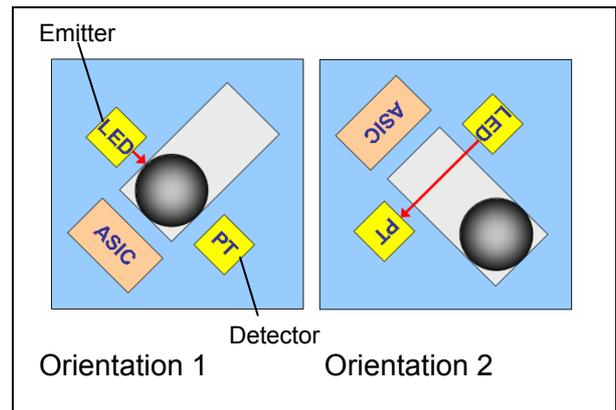

Figure 2: Function of the SFH 7710
The SFH 7710 is an opto-mechanical orientation sensor which detects vertical upright and horizontal orientations. It is based on a moving mass (a steel ball) which is controlled by gravity. The position of the ball corresponds to the orientation of the sensor. It is detected by a light barrier at one end of the ball's path (Figure 2). The light barrier consists of a phototransistor (PT) and a light emitting diode (LED). If the phototransistor is unblocked, it receives light and generates a photocurrent. An ASIC pulses the emitter, measures the photocurrent during the emitter on-time and sets the tilt sensor output to ground (ball is blocking the light) or to open drain (ball is not blocking the light). Therefore a pull up resistor is needed to provide high voltage under open drain condition. In order to limit the output current of the sensor when the output is low, the pull up resistor should be 10k Ω or 100k Ω .
light barrier when the sensor is tilted in one direction (Figure 2). Mechanical friction causes an undefined hysteresis effect.